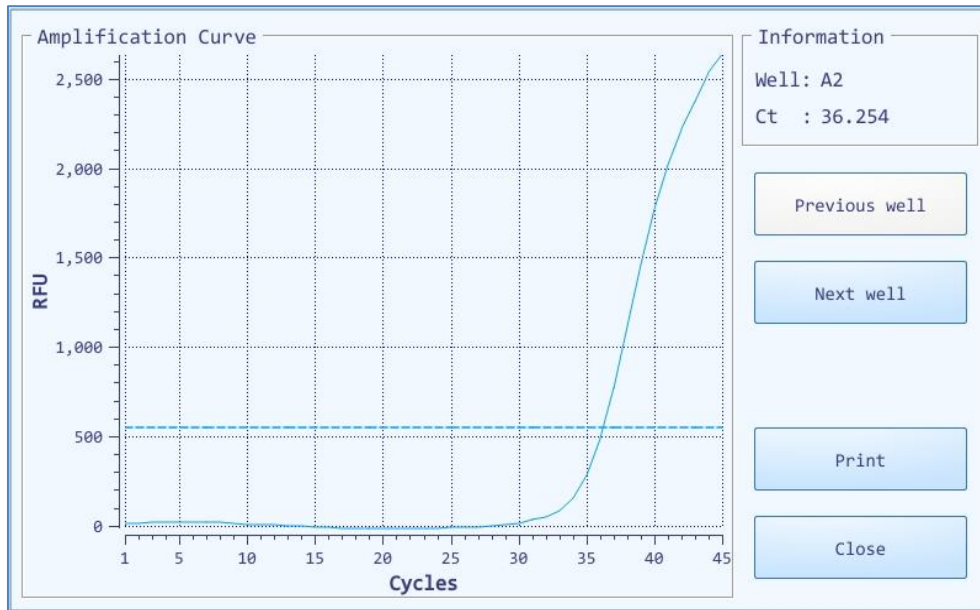

Figure E-5.2. Run Monitoring Diagram - Amplification Result
- User can press any well on the fluorescence heat map to check the amplification result of this sample, as shown in figure E-5.2.